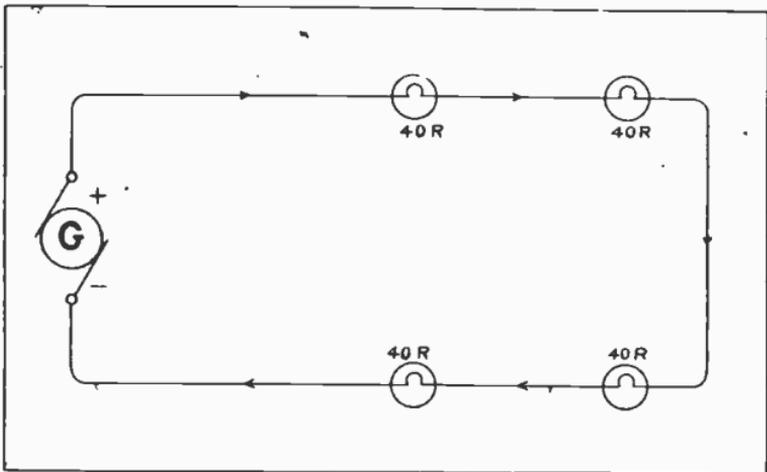

Fig. 25. Four 40-ohm Lamps Connected In Series.
2. The total resistance in ohms of all the parts connected in series is equal to the sum of their separate resistance in ohms. In Fig. 25 we have four lamps in series. Each lamp has a resistance of 40 ohms. Neglecting the very small resistance of the connecting wires, the total resistance of this circuit is  $4 \times 40$ , or is 160 ohms.